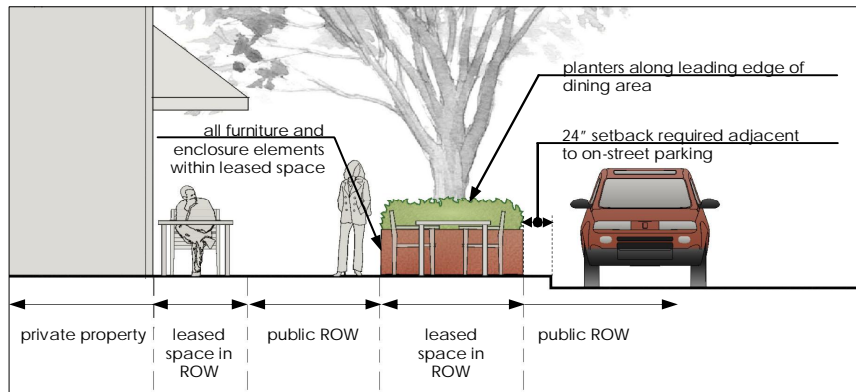

Figure 3.5
- planters on leading edges of dining areas are allowed and encouraged, but not required, to delineate the space from the public ROW (see Figure 3.5).